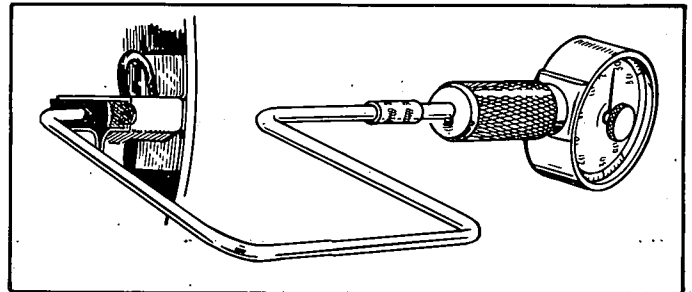

FIGURE 41. BRUSH SPRING TENSION TEST
9. **Inspection for Brush Spring Tension.** Measure brush spring tension with a tension meter as shown in Figure 41. Push the brush and take a reading just as the brush projects a little from the brushholder. On a new brush the spring tension should be 29 to 38 ounces.